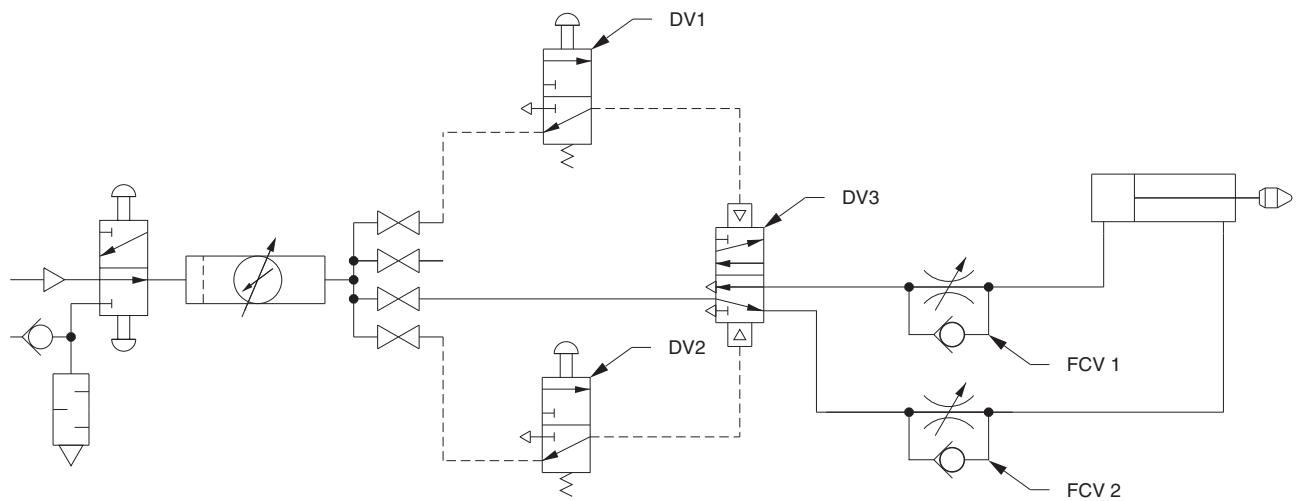

Figure 3-4. Schematic Diagram of a Memory Circuit.
- 1. Connect the circuit shown in Figure 3-4. Screw a tip to the cylinder rod.